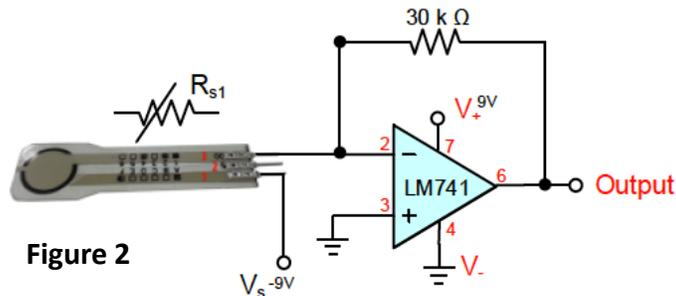

Figure 2
- It usually has two inputs (inverting input [2], non-inverting input [3]), and one output (6).
- In our circuit, we will use it as a non-inverting amplifier. See the Figure 2 schematic.